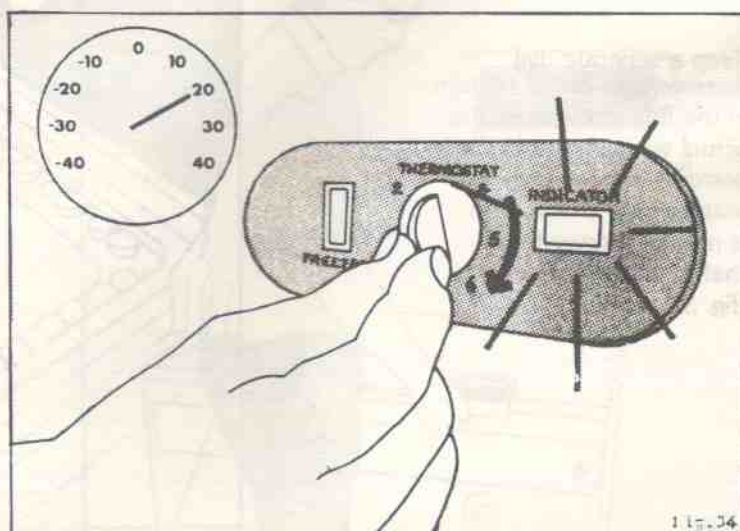

Fig. 34
- (a) If it is observed that the cabinet temperature remains steady at a **higher** temperature than the required range of $+4^{\circ}$ to $+8^{\circ}\text{C}$, turn the thermostat knob clockwise to a higher setting (fig. 34). Observe for several hours. Select more higher setting, if required, until the required temperature is obtained and the same remains steady.